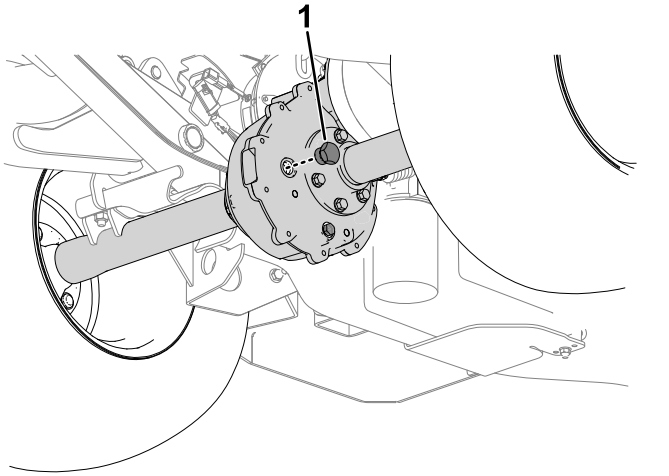

Figure 51
1. Remove the fill plug on the axle (Figure 51).